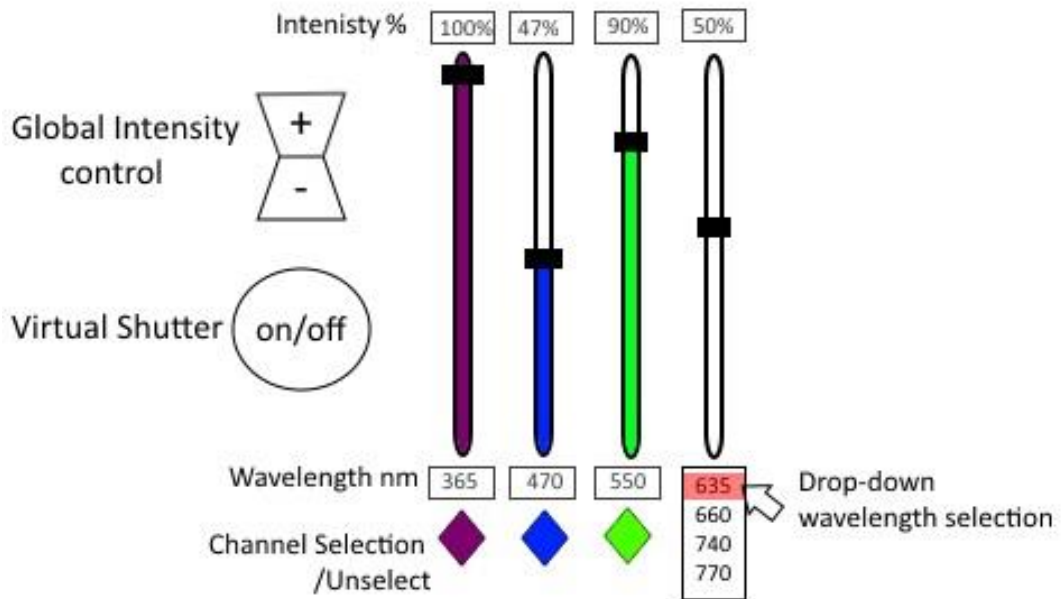

Figure 11: Example of a GUI.
- The 'LAMBDAS' command on the pE-4000 allows all available wavelengths to be read in and possibly displayed in a drop-down menu or list as shown in Figure 11.
- The CSS commands allow the intensity to be set independently for each channel. This could be provided as a slider mechanism in the GUI or as a box where intensity can be set directly, or as both. This can be seen in Figure 11.
Figure 11 shows a mixture of GUI controls that may be applied to the control of the pE-4000 or pE-300white. This is only covering the most basic control but the designer may include other functions, for example the analogue mode option and control for the extra channels E-H.